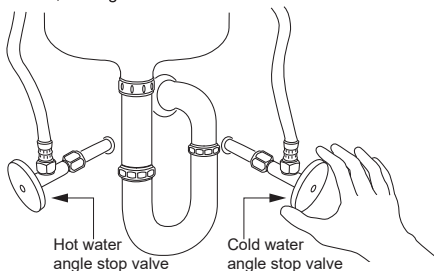

Fig. 1 Close hot and cold water angle stop valves under the sink before installing the thermal bypass valve
1. Close both the hot and cold water angle stop valves below the sink; see fig. 1.